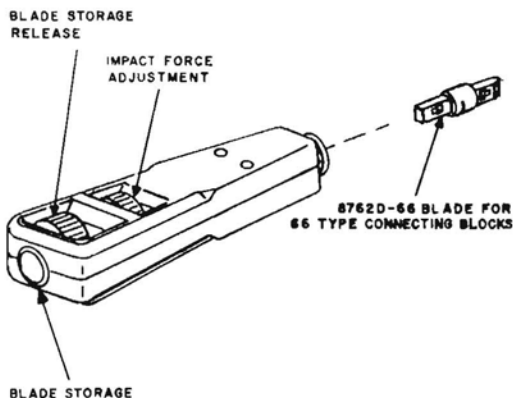
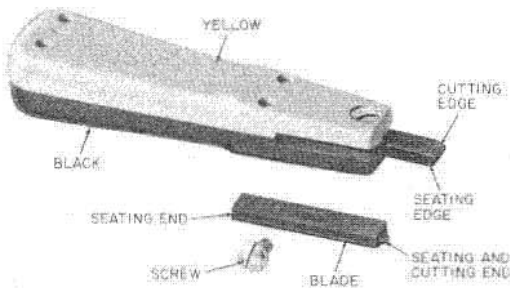
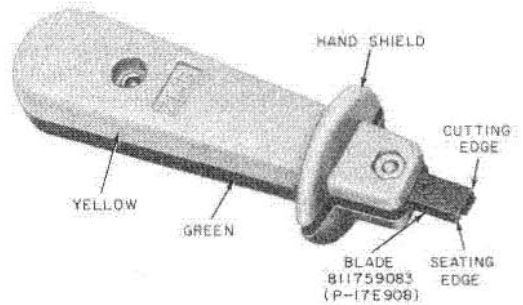

Fig. 1—D Impact Tool
Fig. 2—B Impact Tool (MD)
Fig. 3—714B Tool
2.01 The D impact tool (Fig. 1), the B impact tool (MD) (Fig. 2), and the 714B tool (Fig. 3) are used to make terminations on 66-type connecting blocks. The D impact tool is recommended for use in installations where numerous cutdowns are required. The 714B is intended for occasional or intermittent use.
2.02 The D impact tool (Fig. 1) consists of a handle with a switchable dual force impact mechanism, a blade release switch, and a cavity for storing a spare blade. The handle is designed to accept three different type blades, one of which is the 8762D-66 blade designed for use with the 66-type connecting block.
2.08 The B impact tool (Fig. 2) consists of a reversible steel blade attached by a single screw to a plastic handle. One end of the blade is used for seating and cutting conductors while the other end is used for seating only. A spring mechanism inside the handle controls the amount of force the installer must exert to terminate and cut wires.
2.11 The 714B (Fig. 3) is similar to the B impact tool except that it does not have an adjustable impact mechanism. It has a hand shield and is yellow and green instead of yellow and black.